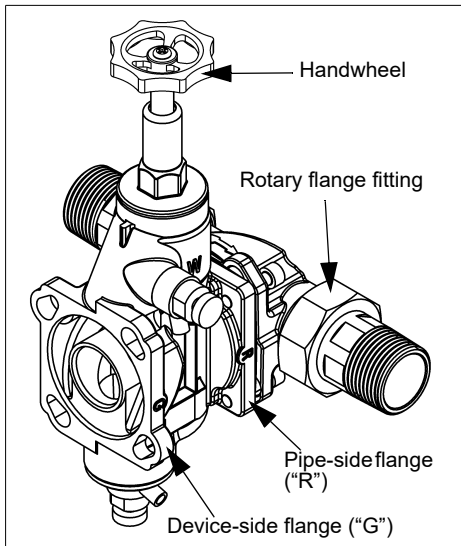

Fig. 5: Bypass valve (JQX)
- Connect the bypass valve with the rotary flange fitting, by engaging the bayonet, on the flange side with the cast-in letter "R" (R=Rohr [pipe]) (see fig. 5).